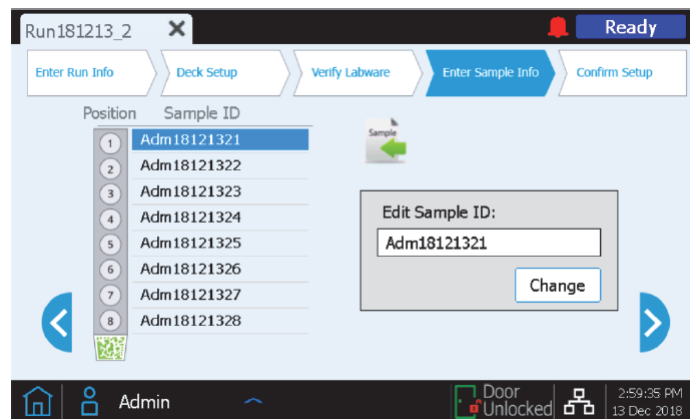

Figure 18. *Edit Sample Info* screen of the Magnis NGS Prep equipment; the load samples button is highlighted with a circle.
- When configuring the assay, on the *Enter Sample Info* screen, press the download samples button (highlighted with a circle in Figure 18).